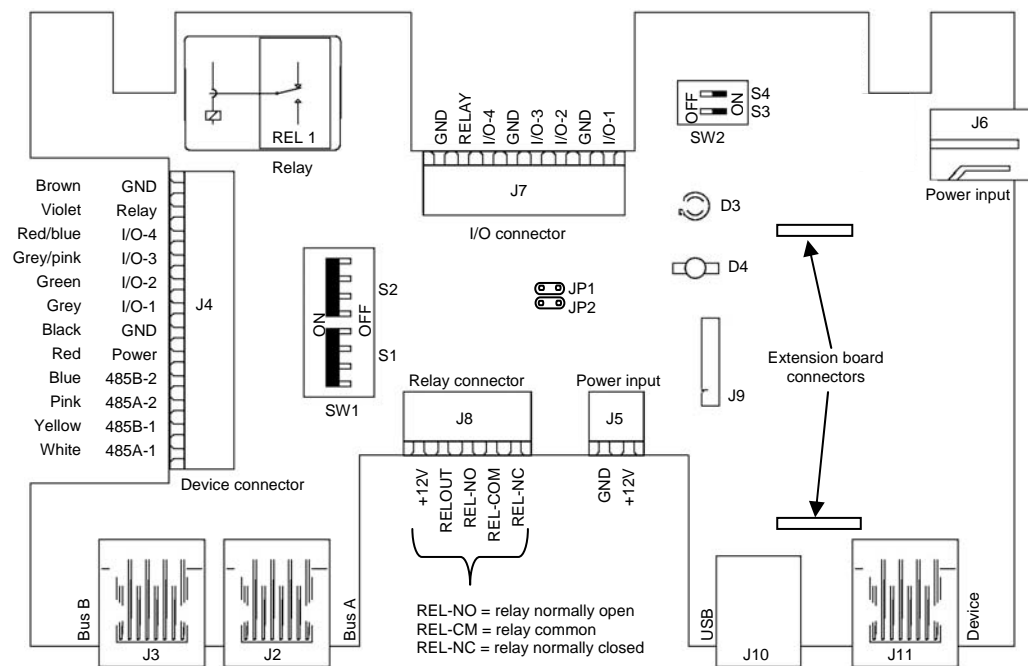

Figure 2: Layout of the connection unit PCB
- B. The connectors J4, J5, J7 and J8 (see Figure 2) can be removed from the printed circuit board in order to make the necessary connections. In order to create a cable outlet, break away the interstice(s) from the bottom plate. Apply the bottom plate including the printed circuit board on the wall plate.
Figure 2 shows the layout of the terminals, DIP-switches, connectors, relay and LED's of the printed circuit board assembly.
When a maximum switching current of 2A is not sufficient, an additional (external) relay can be connected to RELOUT (see Figure 2).
| S3 | Relay is triggered by external signal on the RELAY input of J4 (see Figure 2). Signal low = Relay on. | Relay is triggered by a coded signal on the RELAY input of J4 (see Figure 2). |